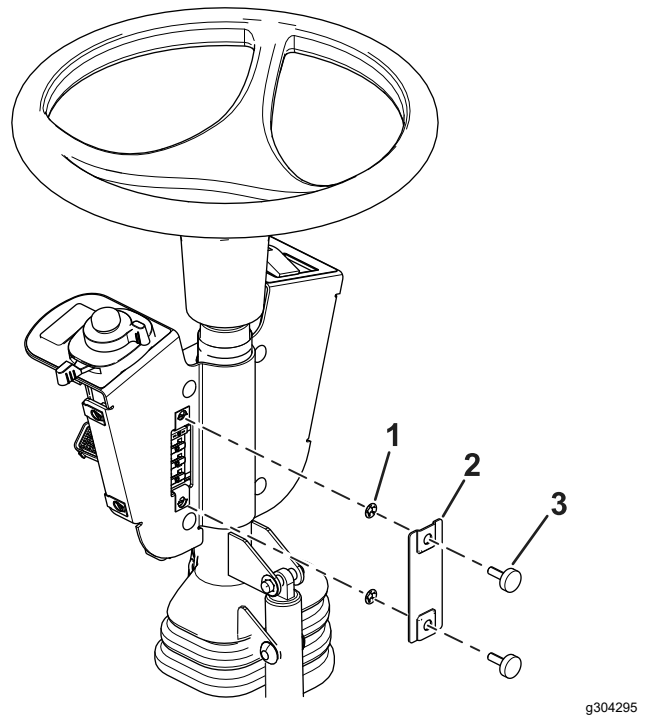

Figure 9
11. Install the fuse cover to the switch mount using 2 thumb screws and 2 push nuts (Figure 9).
Note: Ensure that the push nuts are installed on the inside of the fuse cover (Figure 9).